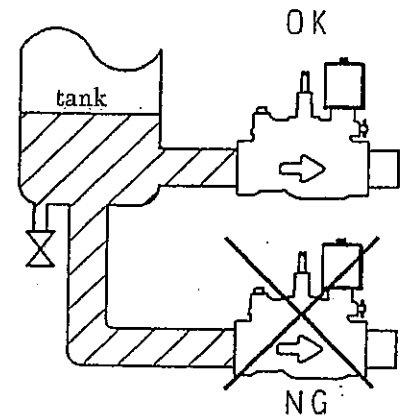

Fig. 6
- (8) When the drainage of water from inside the tank is controlled, if the pipe is placed at the bottom of the tank, accumulated foreign matter may flow into the pipe, causing operational defects in the solenoid valve. The pipe should be placed slightly above the bottom of the tank. (Fig. 6)